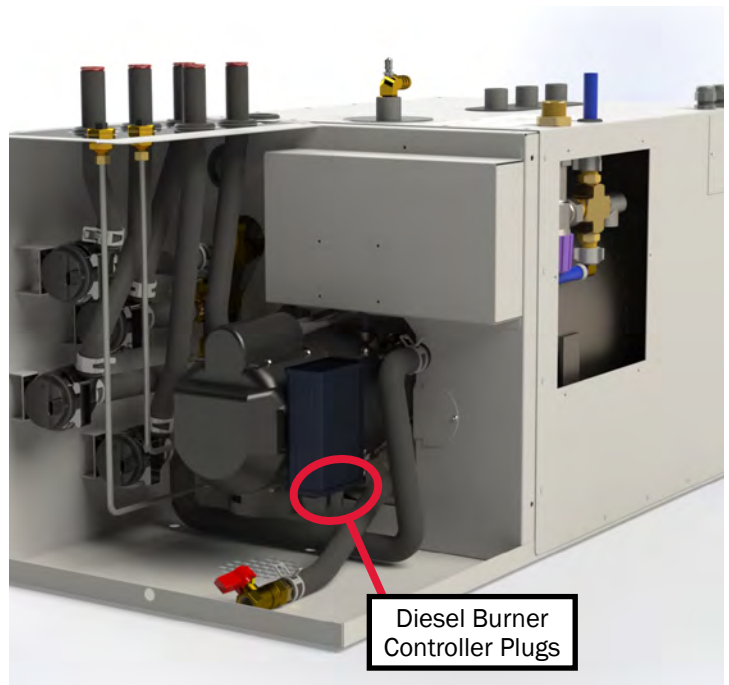

Figure 152
- Unplugging the diesel burner controller (Figure 152)